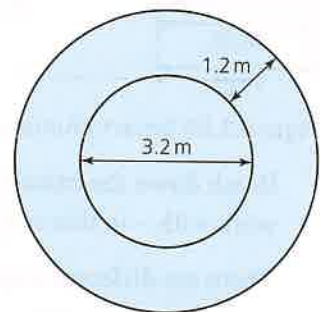

Figure 3.52 Plan view of roundabout with rubber chipping path surrounding it
- The council would like a protective path of rubber chips to surround the ground around the roundabout of width 1.2 m, as shown in Figure 3.52.